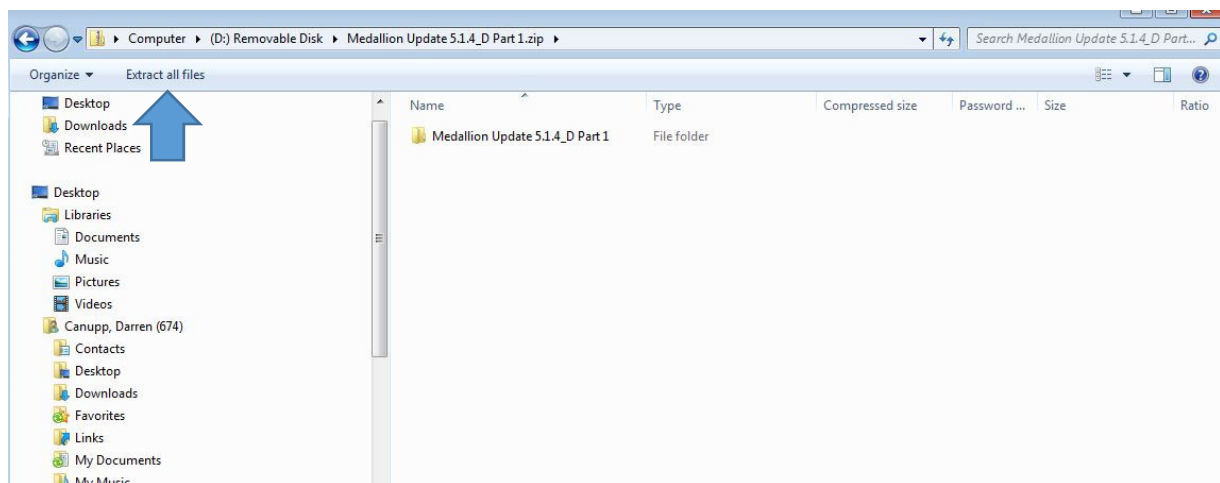

Fig. 7, "Extracting All Files" Screen
7. The download is a zipped folder of files which must be "unzipped or extracted" in order to perform the update. Double click the zip folder, then select "Extract all files." See Fig. 7.